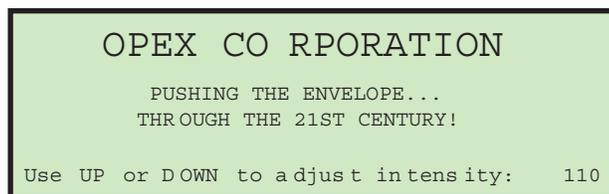

Figure 3-16: Adjust Intensity screen
2. Press the **Left** arrow button. The **Adjust Intensity** screen appears (Figure 3-16).